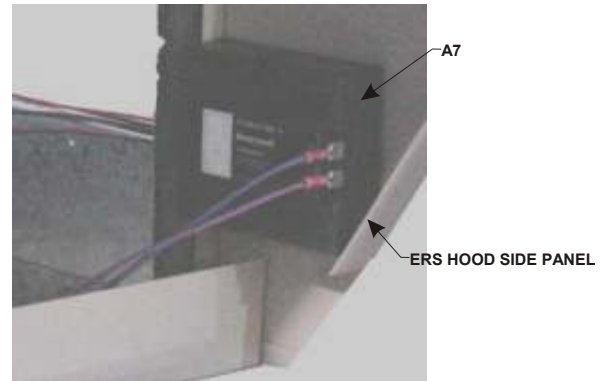

Figure 17
10. Installations using an A7 enthalpy sensor - Remove the screws to the filter access panel of the fresh air hood on the ERS and remove the air filter. Reinstall the A7 enthalpy control sensor with retained screws removed on the bottom panel of the fresh air intake hood. **See Figure 17.**